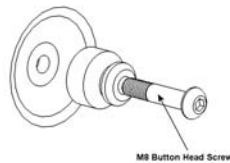

Figure 3
2. Attach mounting buttons to display using M8 bolts and tighten using Allen key included (see Figures 3 & 4).